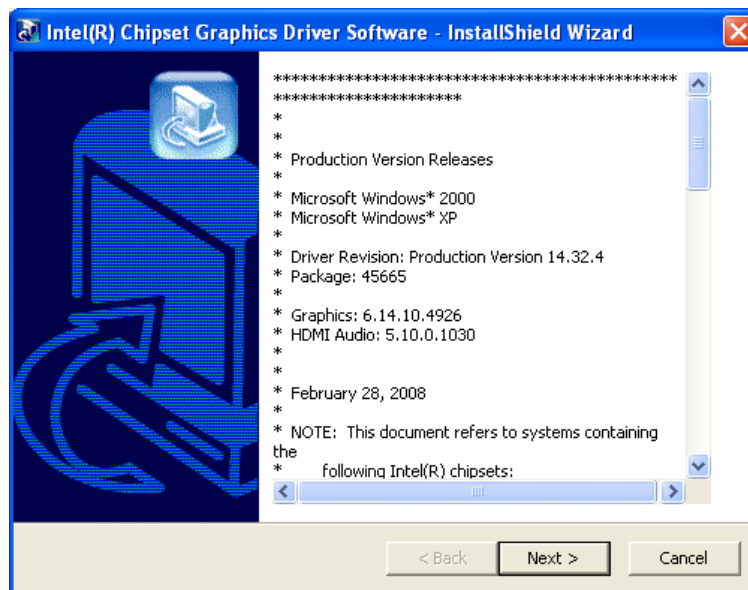

Figure 7-8: VGA Driver Read Me File
- Step 2:** The VGA Read Me file in **Figure 7-8** appears.